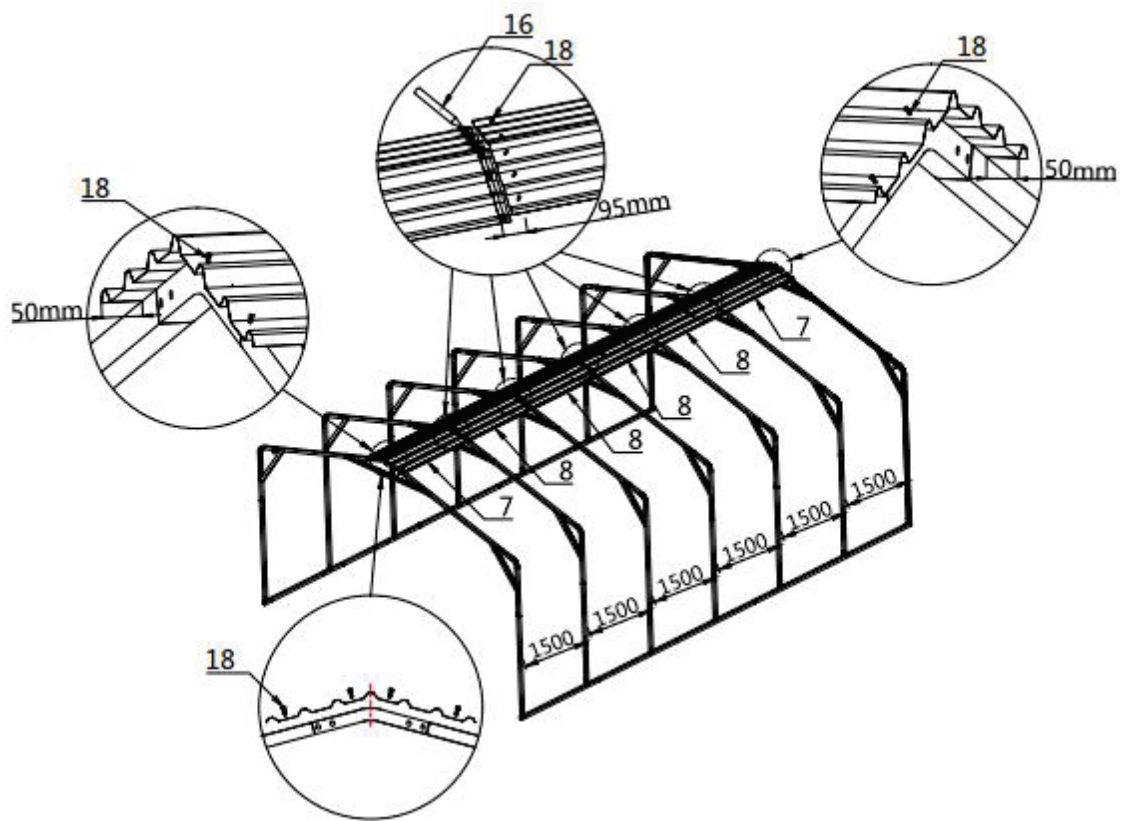

Figure 8
- Before installation, ensure that the distance between centers of each collapse is 1500mm. Install the first row of colored steel tiles from the top end. The center of the colored steel tiles must be aligned with the midpoint of the top arch tube (you can mark the center of the top arch tube with a line). The extension size of both ends is 50mm. The size of the middle cross overlap position is 95mm, and the cross overlap position needs to be coated with waterproof silicon sealant. All color steel tiles are fixed on the truss with (#18) self tapping screws (refer to figure 8).
- (30) Metal sheet (#7)
- (60) Metal sheet (#8)
- (340) Self tapping screw (#18)